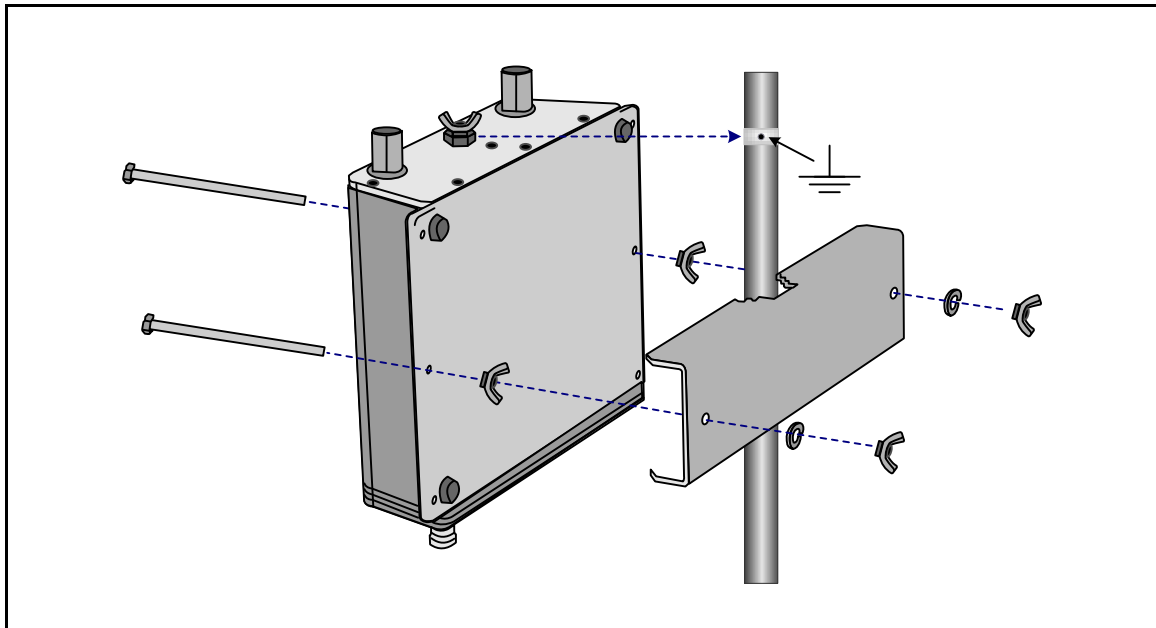

Figure 2.5. Attaching the Mast-Mounting Bracket and Grounding Stud
- 3 Position the Mesh Point at the desired position on the mast, with the Mesh Point's underside facing toward the mast and the front panel facing down, as shown in Figure 2.5.